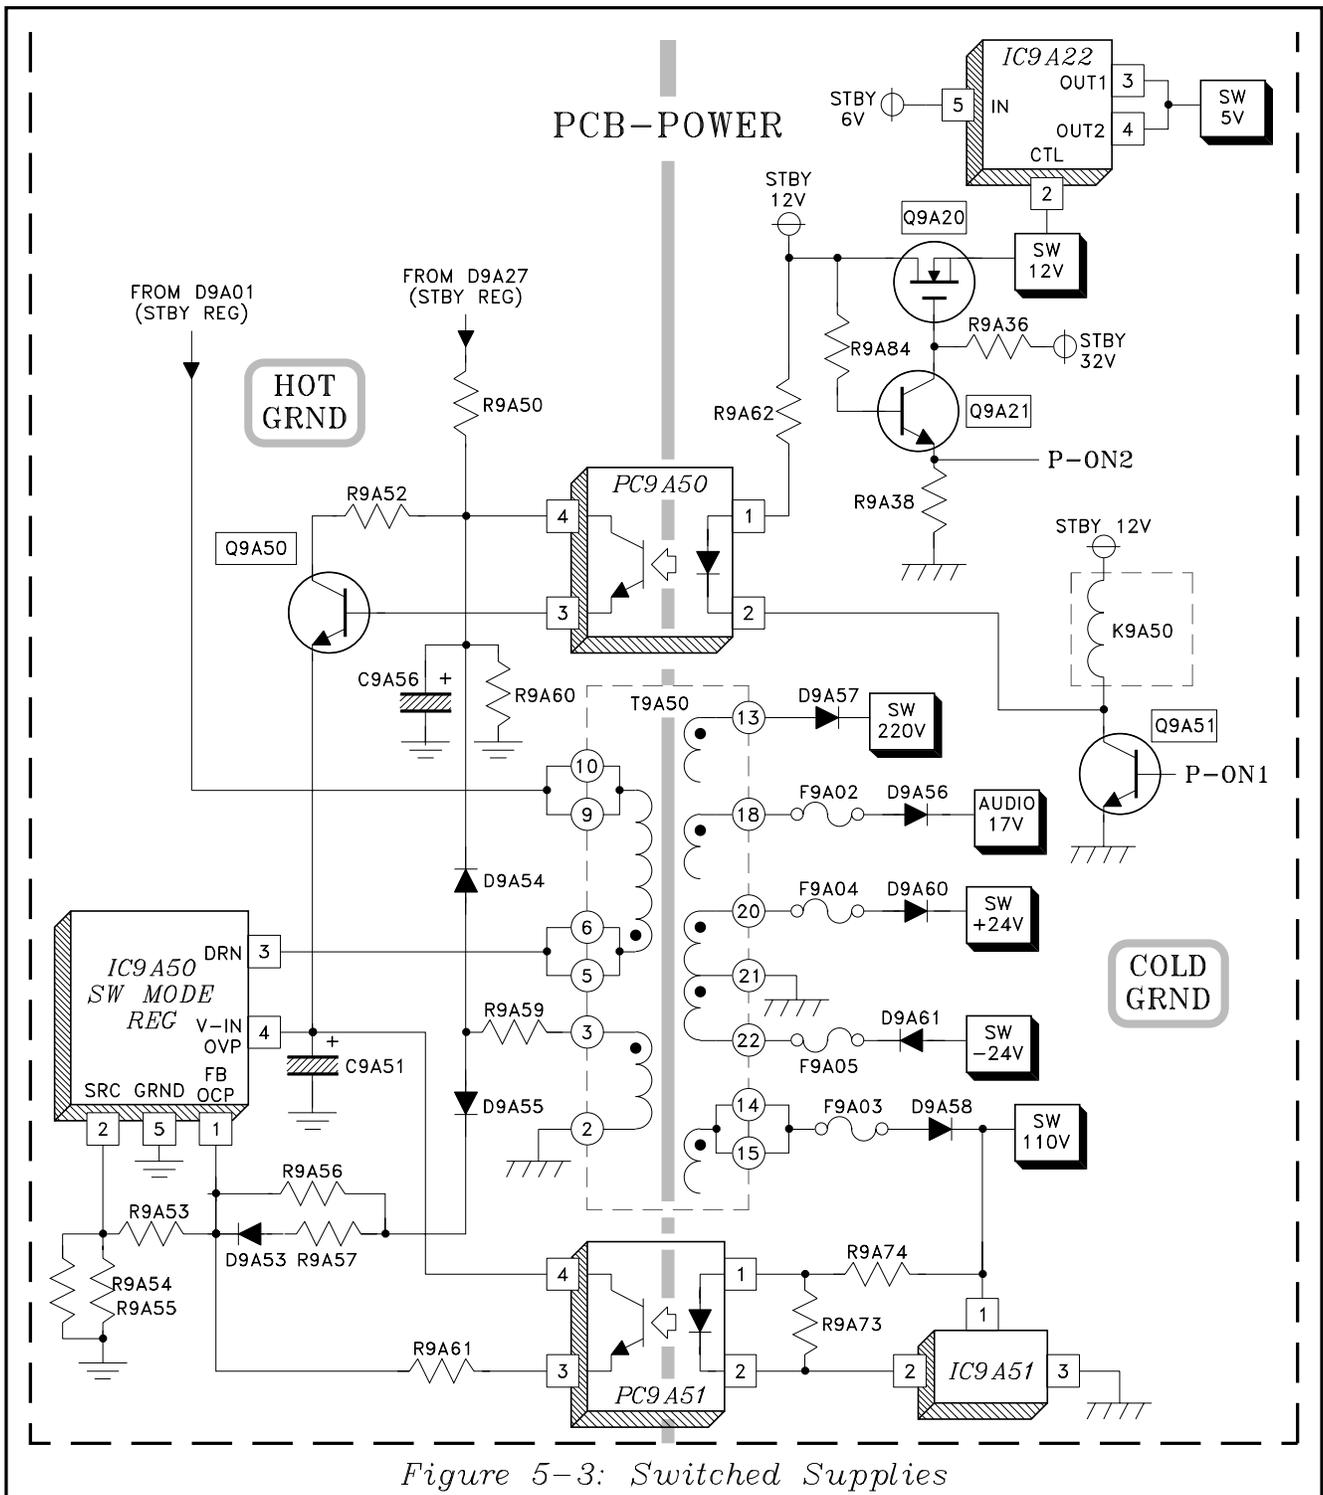

Figure 5-3: Switched Supplies
*Figure 5-3* shows the Switched Supplies Switch Mode Regulator. Except for component nomenclature its' operation is the same as the Standby Regulator.:
The On/Off circuitry is also shown in *Figure 5-3*. There are two Power On commands, P-ON1 and P-ON2. P-ON1 activates the Standby Regulator, IC9A50. IC9A50 generates 220V, AUDIO (17V), +24V, -24V and 110V Switched Supplies. P-ON2 activates the 12V and 5V Switched Supplies, which supply power to the signal processing circuitry.